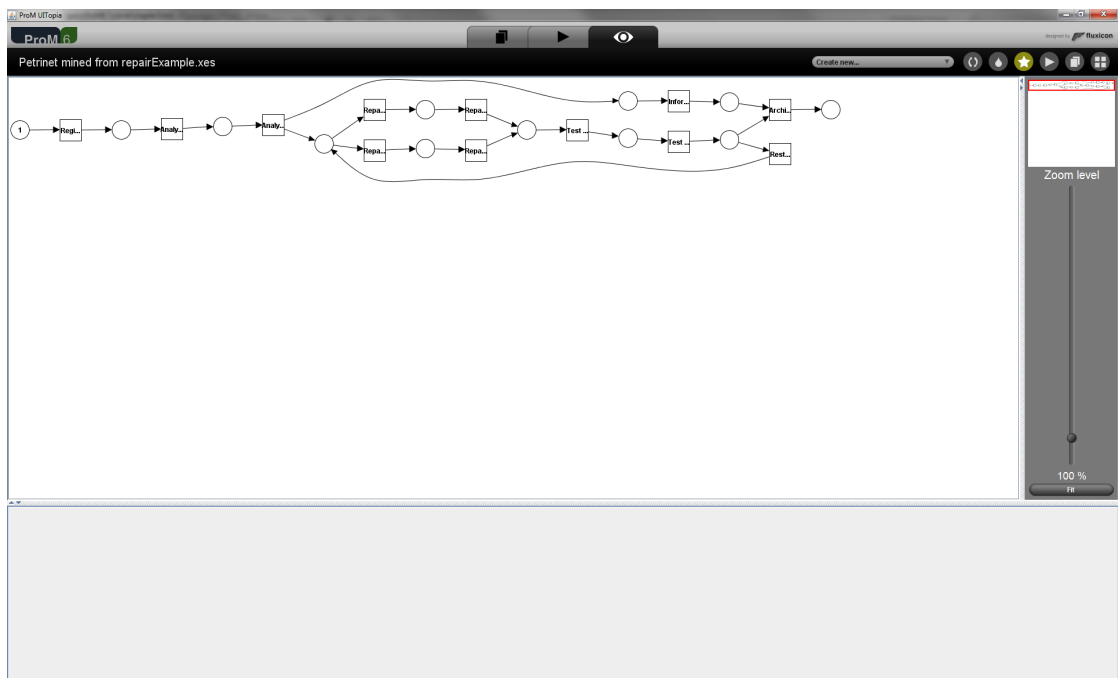

Figure 9: Mined model for the log of the running example.
4. The resulting mined model should look like the one in Figure 9. Note that the “ α -algorithm” plug-in uses Petri nets⁶ as its notation to represent process models. From this mined model, you can observe that:
The remaining questions of the list on page 20 are answered by using the *Social Network* plug-ins. For instance, in the context of our running example, we would like to check if there are employees that outperform others. By identifying these employees, one can try to make the good practices (or way of working) of these employees a common knowledge in the company, so that peer employees also benefit from that. In the context of our running example, we could find out which employees are better at fixing defects. From the process description (cf. Section 1.3) and from the mined model in Figure 9, we know that telephones which were not repaired are again sent to the Repair Department. So, we can have a look on the *handover of work* for the task performed by the people in this department. In other words, we can have a look on the handover of work for the tasks *Repair (Simple)* and *Repair (Complex)*. One possible way to do so is to perform the following steps: